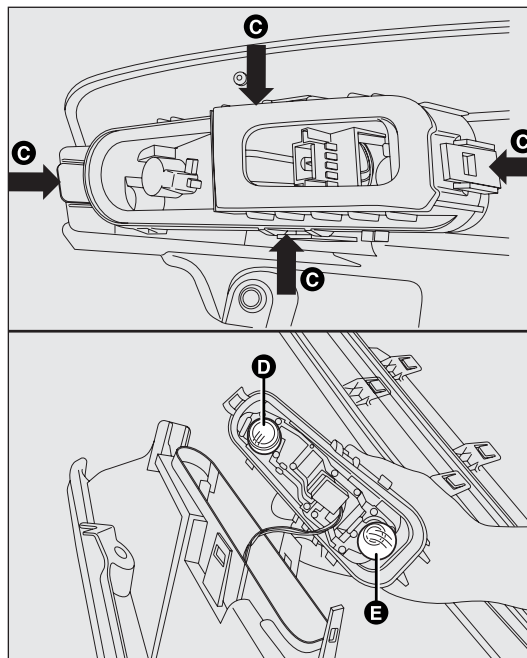

fig. 147
- ☐ detach the bulb holder by unclipping the fasteners C-fig. 147;